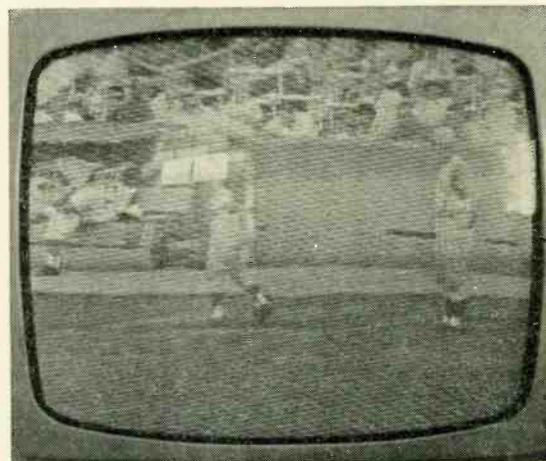

Fig. 3—Light “tweed” pattern is higher-frequency beat, from carrier comparatively far in frequency from video carrier.
83.25 mc. In Fig. 3, the presence of a fine-mesh pattern of many bars indicates the interference is located well *away* from the video carrier. Of course, similar results would be produced by interference getting into the video i.f. in either the 20- or 40-mc range.